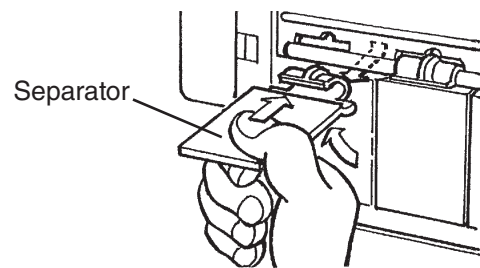

Fig. 38
- 3) Remove each separator by lifting it to the horizontal position and pushing it hard inward. See Fig. 38.